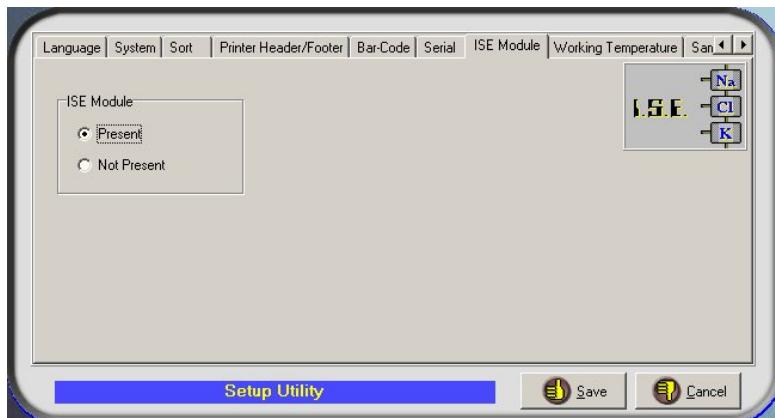

Figure 13
I.S.E. MODULE: Only available in BT3000 Plus and BT3500. Activates the ISE module (**Figure 13**). Check Present to activate or Not Present to deactivate. When the ISE module is disabled, all relevant menu options will be disabled too or not visible at all.